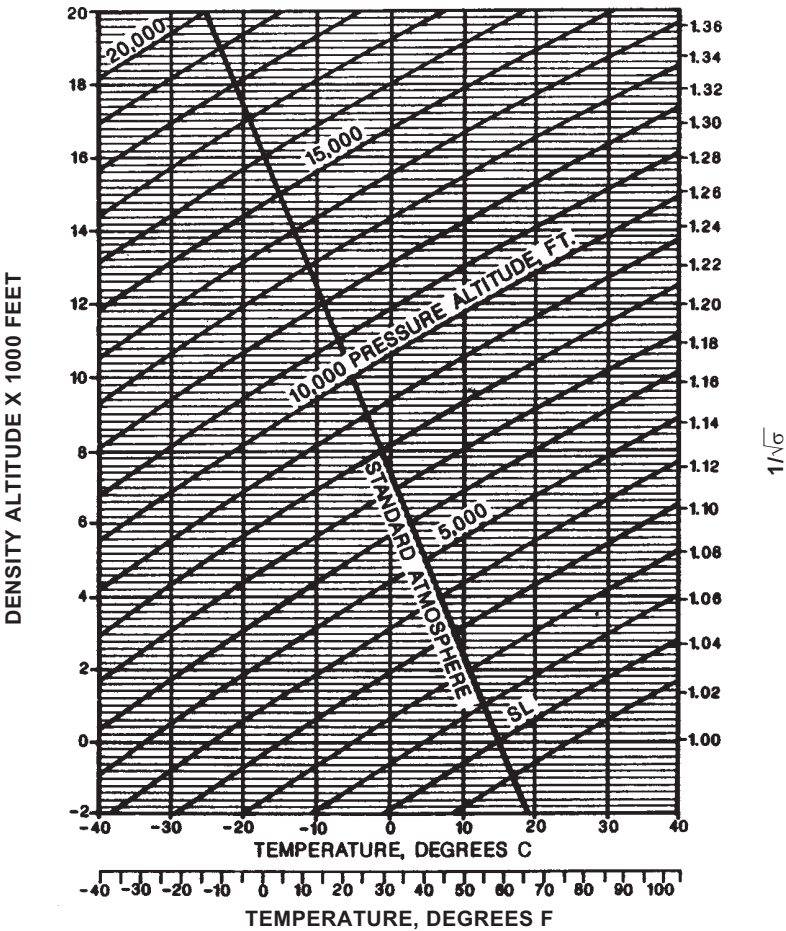

Figure 5-6. Density Altitude Chart
- See Fig. 5-6 for density altitude chart.